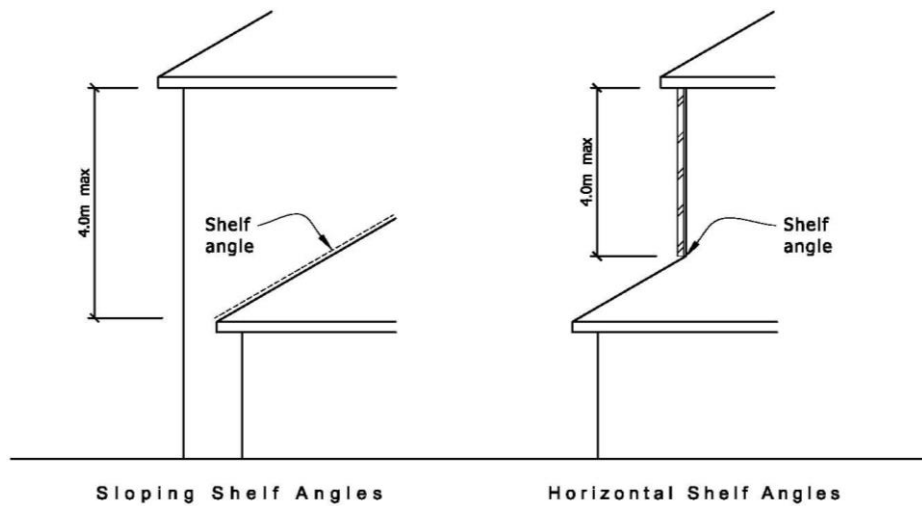

Figure 3 – Shelf Angles
- The maximum veneer panel height above a shelf angle over a skirt roof is to be 4m, measured as shown in Figure 3 below.